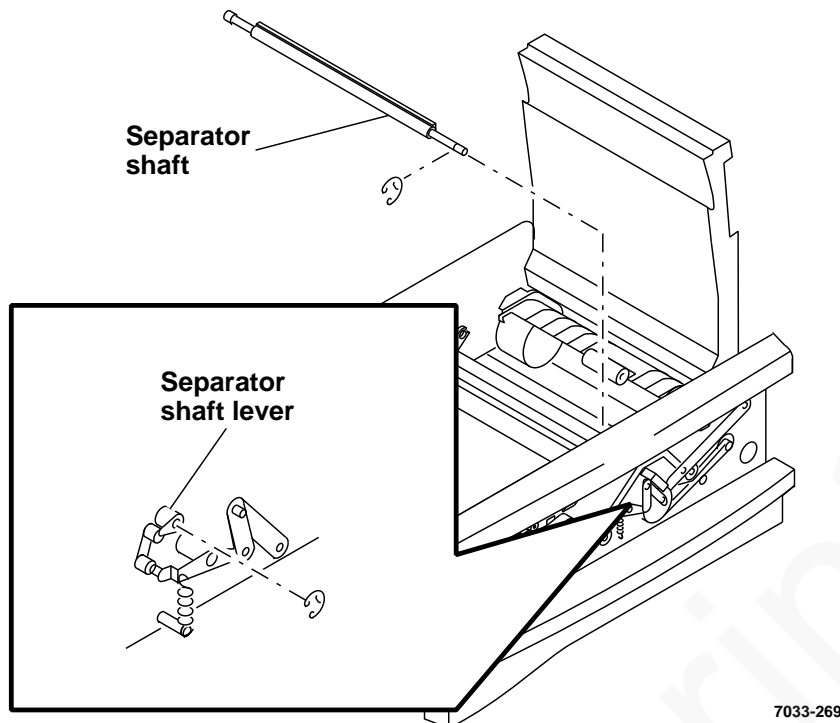

Figure 20. Separator shaft removal
- b. Remove E-ring from inside front frame (Figure 20).